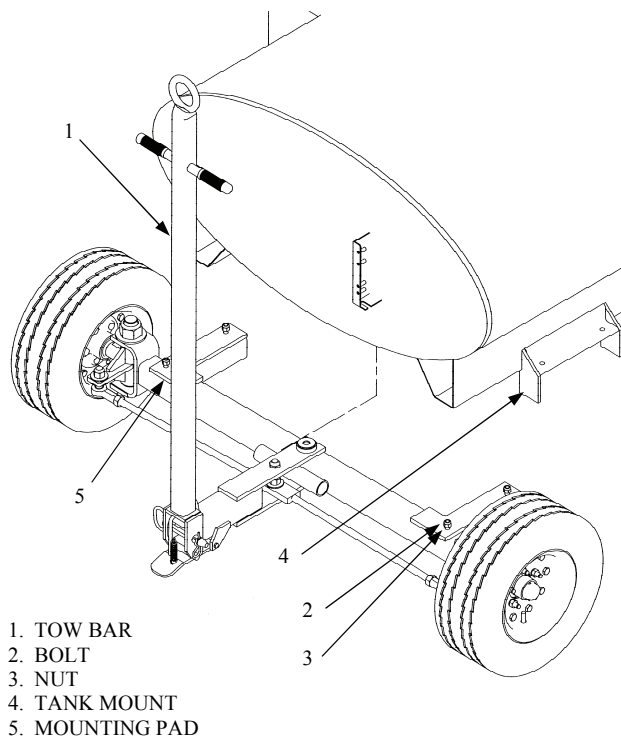

Figure 5-5. Removal of Front Undercarriage
- a. Start by following the steps in Paragraph 5.3.3.5. Note presence and location of bushings (23) when removing tie rod assembly from steering arm assembly.
5.3.3.7 Front Undercarriage Assembly Removal. To remove the entire Front Undercarriage assembly, the equipment must have the front end raised. See Figure 5-5 for these steps.